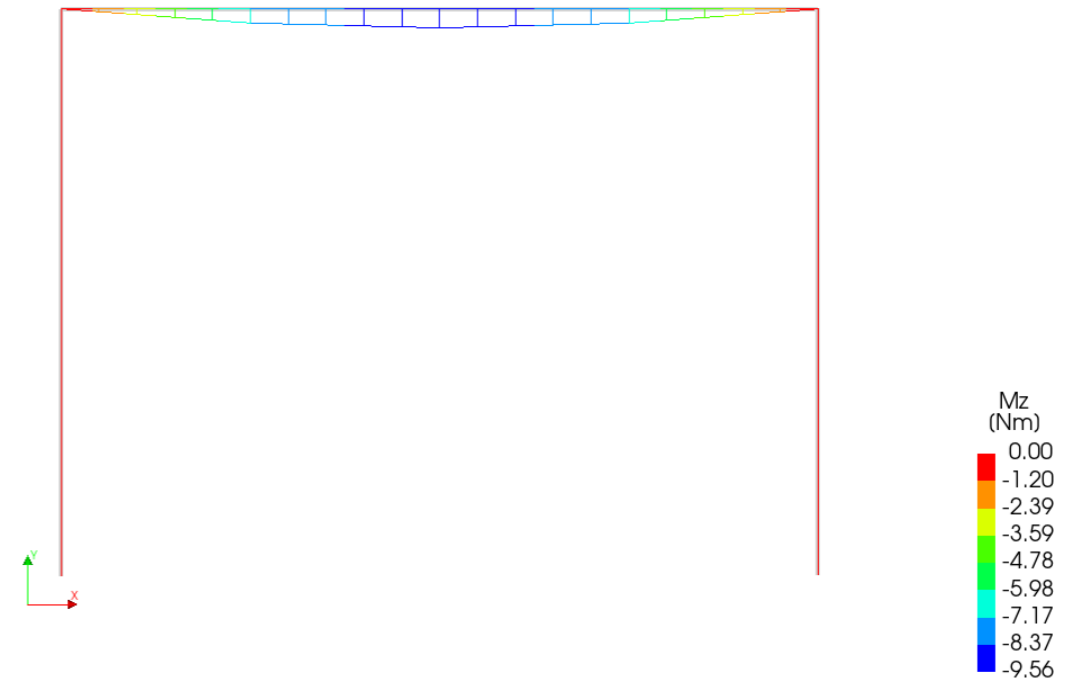

Figure 32: Cross-section moment Mz
**Results browser** → Geometry load combination 3 → Output linear static analysis → Element results → Cross-section Moments → Mz [Fig. 32]